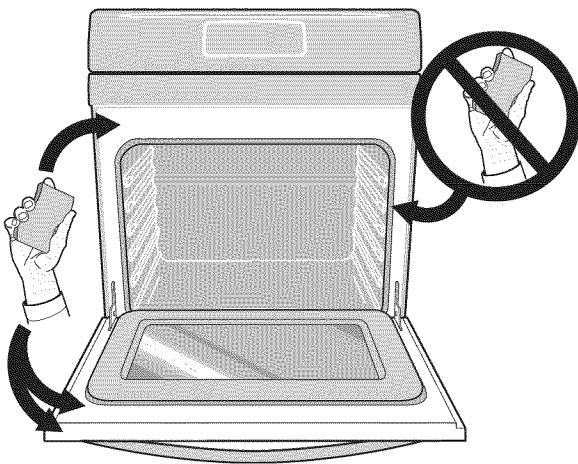

Figure 34: Care in cleaning oven by hand
- Do not clean the oven door gasket (See Figure 34 on page 24). The woven material of the oven door gasket is essential for a good seal. Care should be taken not to rub, damage or remove the gasket. Do not use any cleaning materials on the oven door gasket. Doing so could cause damage.